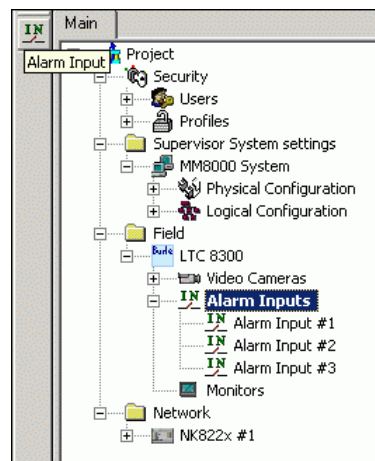

Fig 28 Adding alarm inputs to Philips/Burle switcher
3. Select the sub-nodes alarm inputs and add the alarm input nodes (→ see Fig 28).